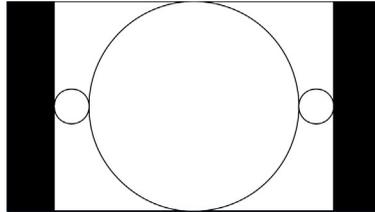

Figure 29: AFD code “1001” for a 16:9 coded frame
Most AFD codes do not require bar data information; only the first user data word must be defined. For example, one common AFD code for a 16:9 coded frame is “1001” (9), which indicates a 4:3 image, horizontally centered, with pillarboxes, as shown in Figure 29: